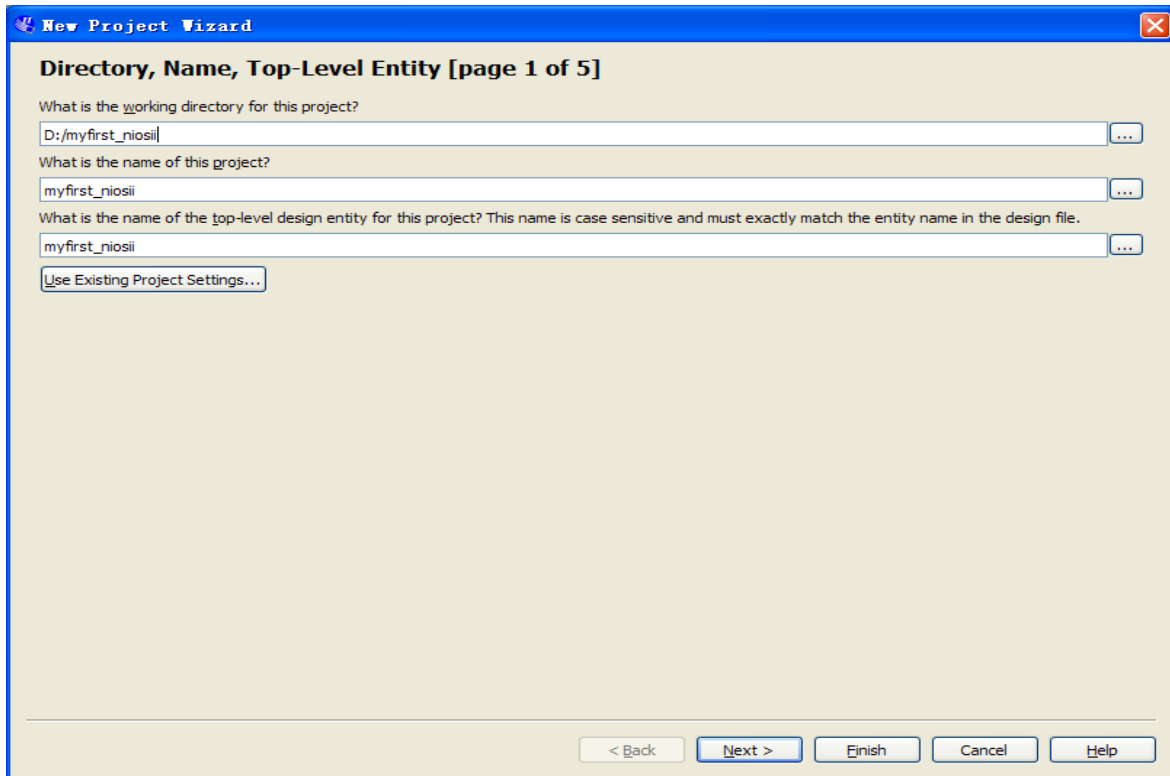

Figure 7-3 Input the working directory, the name of project, top-level design entity
2. Select a working directory for this project, type project name and top-level entity name as shown in Figure 7-3. Then click Next, you will see a window as shown in Figure 7-4.